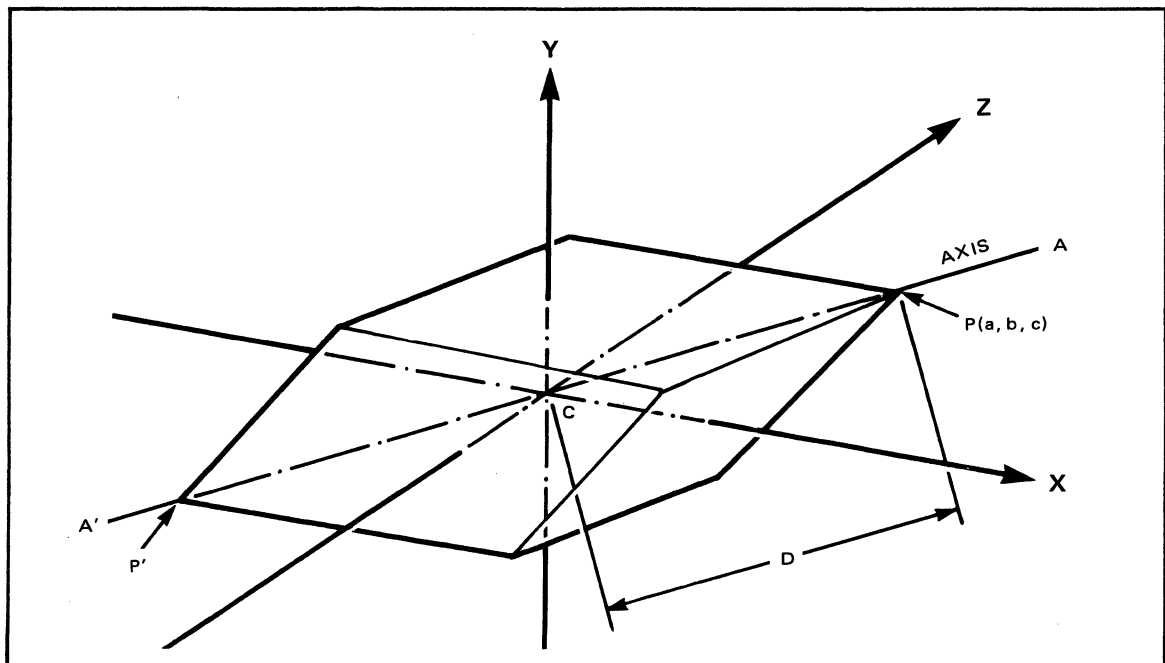

Figure A-4. Axis
- The coordinates of the point P shown in Figure A-4 are a, b, c where:
- The distance between the point P and the center of solid, C. See Figure A-4.
In Figure A-4 the line AA' is called the axis of the solid and it will pass through points P, P' and C.